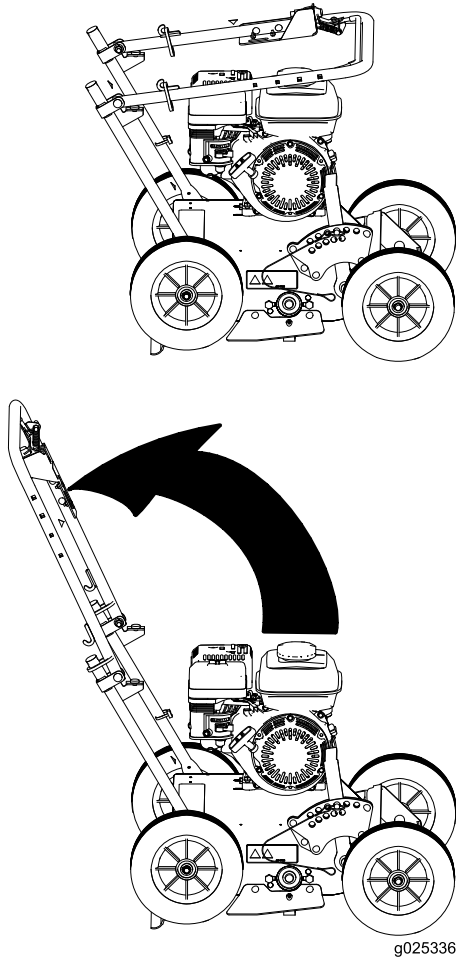

Figure 3
1. Raise the handle to the operating position (Figure 3).
2. Slide the oval locking rings down each side of the upper handle over the lower handle, locking the handle sections together (Figure 3).